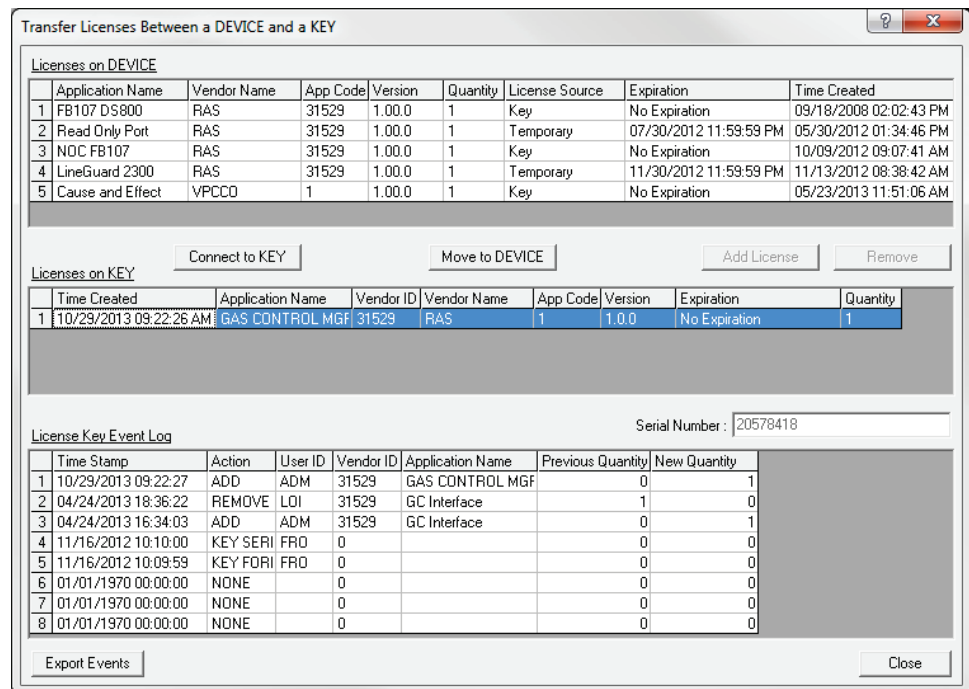

Figure 1. Transfer Licenses Between a Device and a Key
3. Select the key-based license you want to transfer to the FB107 (Read Only Port, as shown in *Figure 1*).